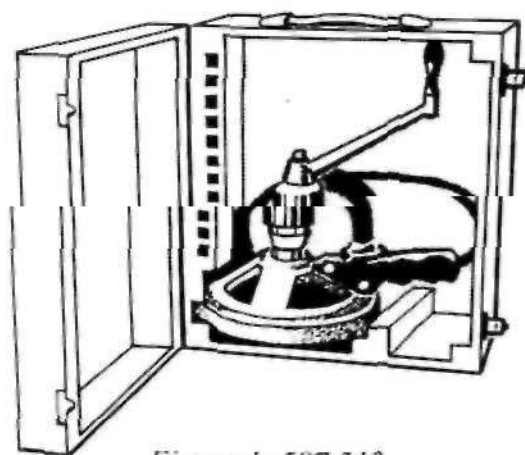

Figure 1: 587 512
The tool is supplied in a wooden box. See figure 1.
- 587 512 Liner seat cutter. See figure 1.